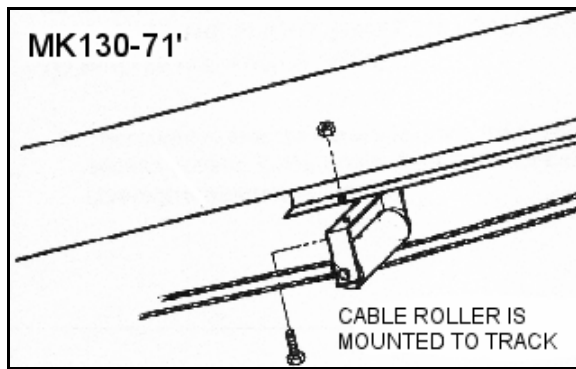

Figure 3.39
3. Attach the cable-roller to the appropriate location on lower end of the track with two 7/16" x 1-1/4" bolts and locknuts (Figure 3.39).